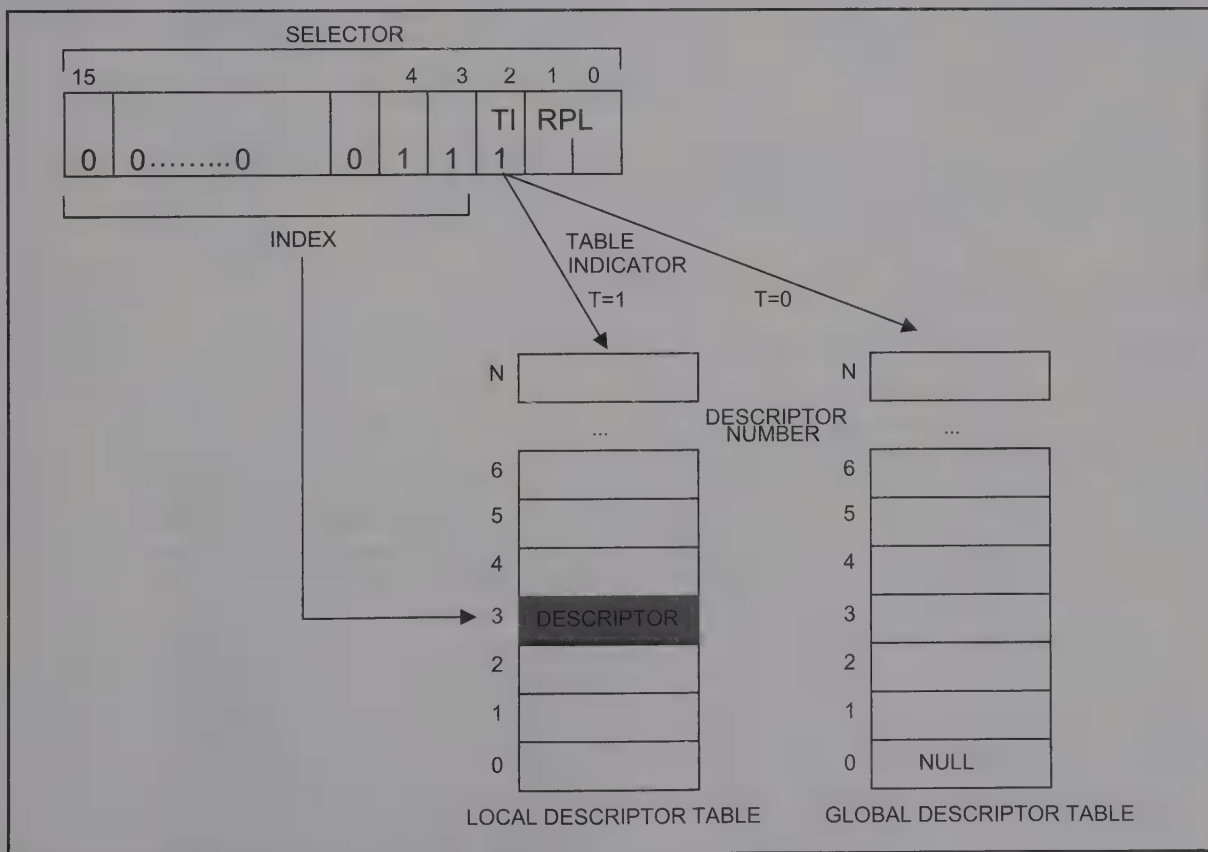

Figure 21-9. LDT and GDT Selection
There are two types of descriptor tables for the 386: the local descriptor table (LDT) and the global descriptor table (GDT). The GDT is used for the system, and individual tasks can have their own LDT. How do the segment registers know which one they are accessing? The third bit (TI) of the segment register (referred to as the selector) always indicates which table should be used. See Figure 21-9.
As seen in Figure 21-9, the 14 bits of the selector (segment) register can have 16,384 ( $2^{14}$ ) possible combinations. Each possible value can access a descriptor that can hold addresses of memory chunks as large as 4 gigabytes. Therefore, we have  $2^{14} \times 2^{32} =$